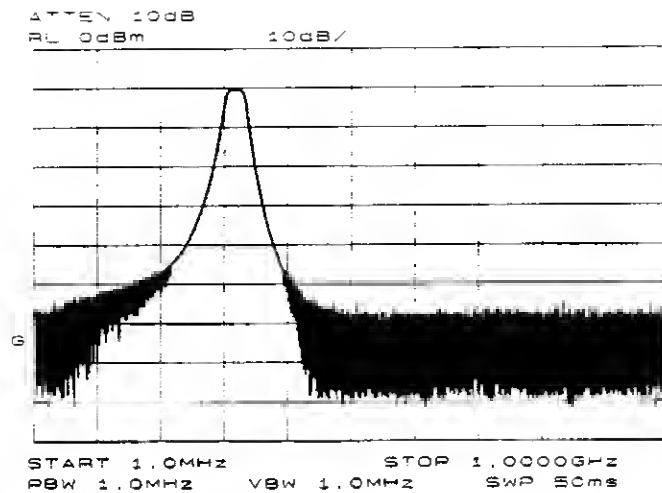

Figure 3-19. Adjust spectrum analyzer settings according to the measurement requirement.
3. Since we are only interested in the rejection of the bandpass filter, tune the spectrum analyzer's center frequency so that the rolloff of the filter comprises the majority of the trace on the display (see Figure 3-19).